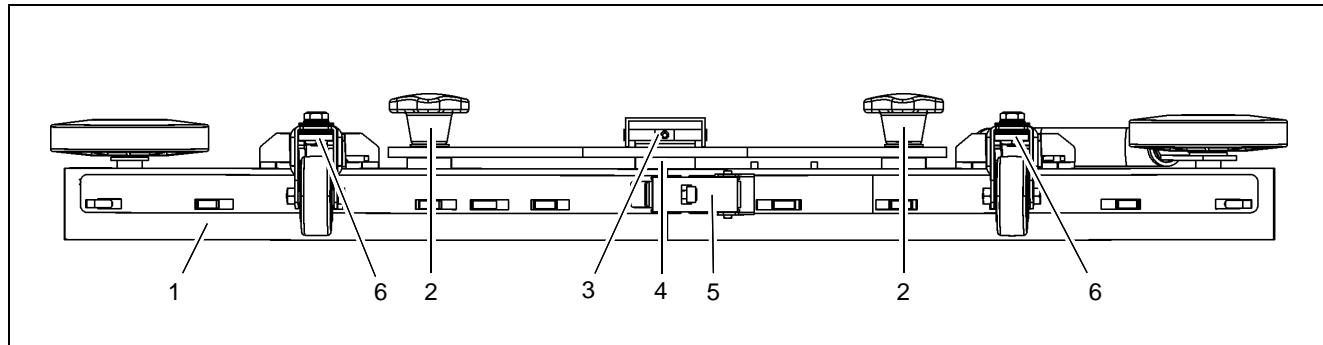

Fig.16
Check the squeegee (Fig. 16/1) daily and clean it as necessary.
To clean the squeegee raise it, disconnect the suction hose (Fig. 16/4), loosen the two star-shaped knobs (Fig. 16/2) and remove the squeegee.
Check the inner and outer sealing strips on the squeegee (Fig. 16/1) weekly for signs of wear. The sealing strips can be turned four times (90°) and reused.
3. Loosen the fastening device (Fig. 16/5) and remove the outer sealing strip. Turn the sealing strip or replace it, as necessary. Change the inner sealing strip in the same way.
2. Loosen the counter nut on the adjusting bolt (Fig. 16/3) and adjust the squeegee with the adjusting bolt until the ends of the sealing strips just make contact with the floor.